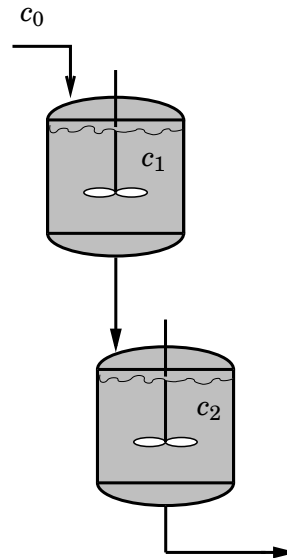

Figure 2.4 The tank system in Problem 2.4.
2.4 Two tanks are connected in series, see Figure 2.4. The tanks have constant volume $V = 1$ and constant flow $q = 1$.